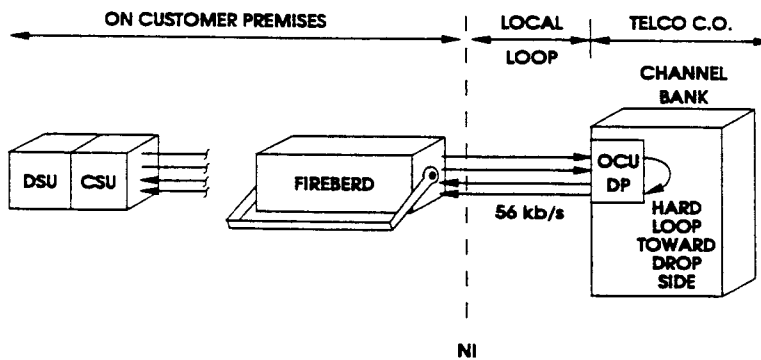

Figure 1-9
Figure 1-9 shows a FIREBERD equipped with a DDS Local Loop Data Interface Module at the customer premises. A manual (i.e., hard) loopback at the OCU sends the transmitted data back to the FIREBERD for analysis. Once the loopback is established, the FIREBERD can test the network from the customer side (or DROP side) of the OCU to the location of the loopback.
4.	Using the MENU switch: a. Configure the DDS Local Loop Data Interface Module using INTF SETUP. Select these softkeys: <ol style="list-style-type: none"> 1. DDSLL to access the DDS Local Loop Data Interface Module. 2. RATE to access the data rate menu. 3. MORE 56.0K to test the 56 kb/s circuit shown in Figure 1-9, or any pattern that is appropriate for your test. 4. Δ CHAN to enter the channel selection menu. 5. ON to indicate the presence of a secondary channel. 6. PRI to select primary channel analysis. 7. 511, 2047, or IDLE as secondary pattern selection. (Primary pattern is selected by the DATA switch.) 8. $\Delta \Delta \Delta$ TX LEVEL to access the transmit level menu. 9. Δ MORE 0 dB to add no additional loss to the transmit level. 10. TXCLK to access the timing source menu. 11. RECOV to recover timing from the DDS network. 12. Δ ERRINS to select the error insert menu. 13. OFF to turn off error insertion.